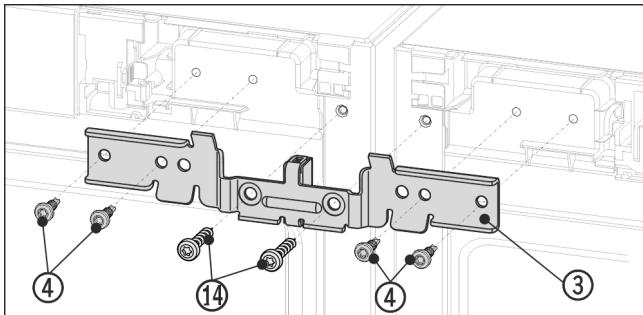

Fig. 10 Example illustration
- ▶ Slide the bracket Fig. 10 (3) onto the pins with the spacer between the appliances. Loosely screw in the brackets alternately right and left with four screws Fig. 10 (4) and the previously removed earthing screws Fig. 10 (14).